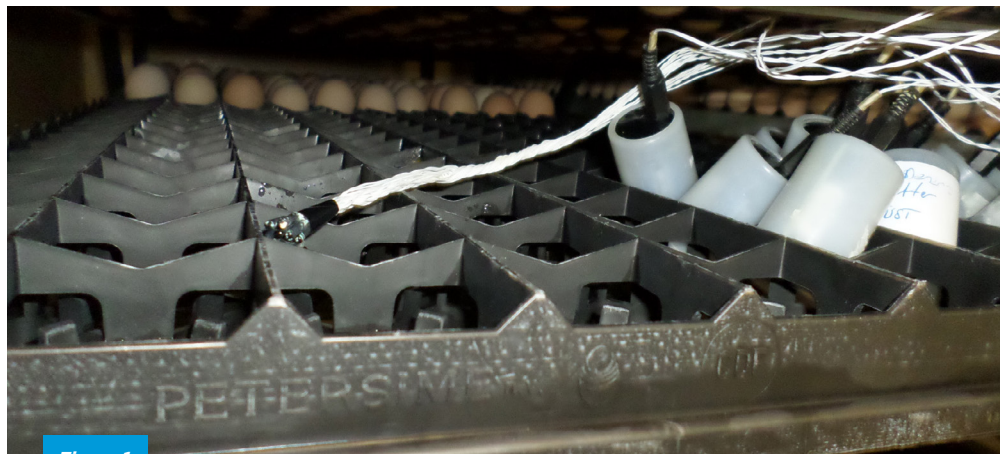

Figure 1
- **Hold all the thermistors together using adhesive tape and place them into a setter containing day 2 – 4 day eggs for at least an hour as shown in Figure 1.**